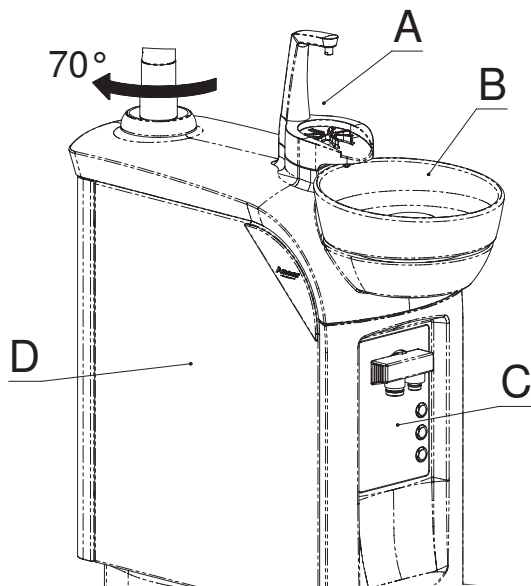

Fig. 8
The water unit has a rotation of approx. 70° towards the arm support, facilitating the ergonomics of daily use. The upper part holds the cup holder (A) and spittoon (B), made of porcelain to offer high standards of hygiene (fig. 8).
Front panel (C) supports cannula filter, (D) is a lateral door towards Water Unit (fig. 8).